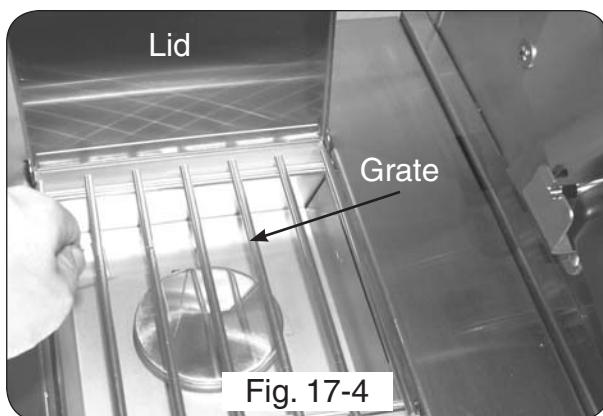

Fig. 17-4
6. Place the grid so that it rests on the front and back lips of the sideburner opening (Fig. 17-4).